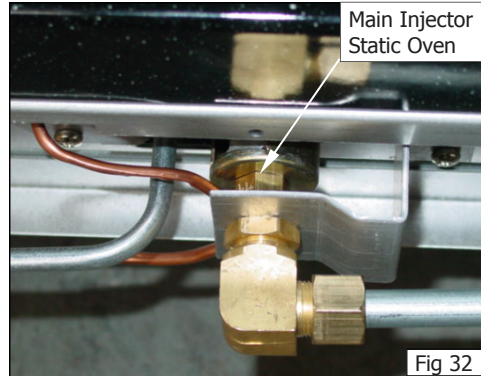

Fig 32
- Remove the main injector (See Fig 32) and replace with the correct size injector. (Refer to the 'Gas Specifications' table at the rear of this section).